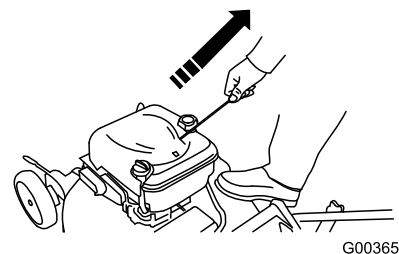

Figure 20
- Pull the recoil starter at the engine (Figure 20).